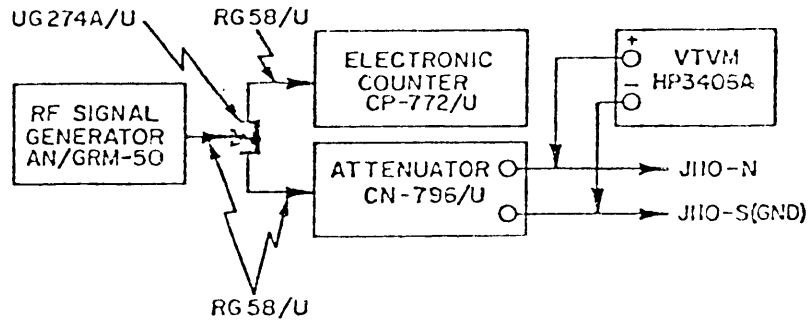

Figure 5-9. Step generators B and C, test setup.
- (j) Connect a signal generator to J110-N, as shown in the setup of figure 5-9. Set attenuation to zero unless otherwise directed.